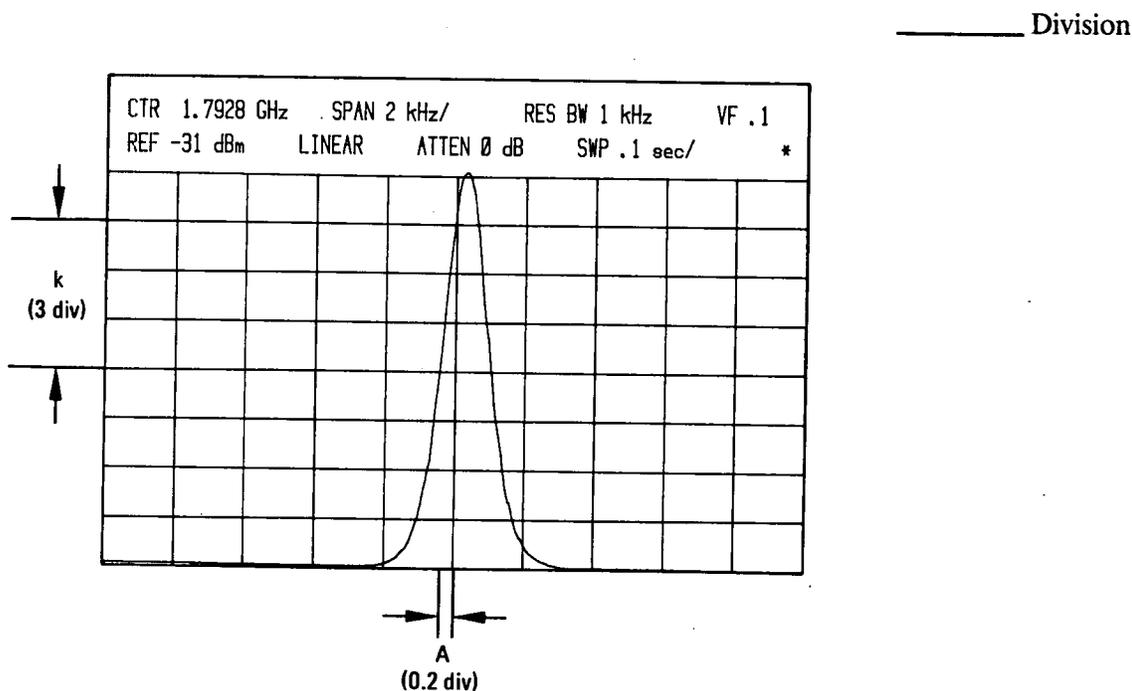

Figure 4-8. Residual FM to AM Conversion Display
4. Adjust REFERENCE LEVEL FINE control to place signal peak at top graticule line. Carefully adjust TUNING control so upward slope of signal intersects the center vertical graticule line one division down from the top as shown in Figure 4-8.
5. Set TRACE A to STORE VIEW. Record the distance from the signal skirt at the horizontal center graticule line to the center vertical graticule line. (In Figure 4-8 the distance is 0.2 division.)
12. Adjust REFERENCE LEVEL FINE control to place signal peak at top graticule line. Carefully adjust TUNING control so upward slope of signal intersects the center vertical graticule line one division down from the top as shown in Figure 4-8. Set TRACE A to STORE VIEW.